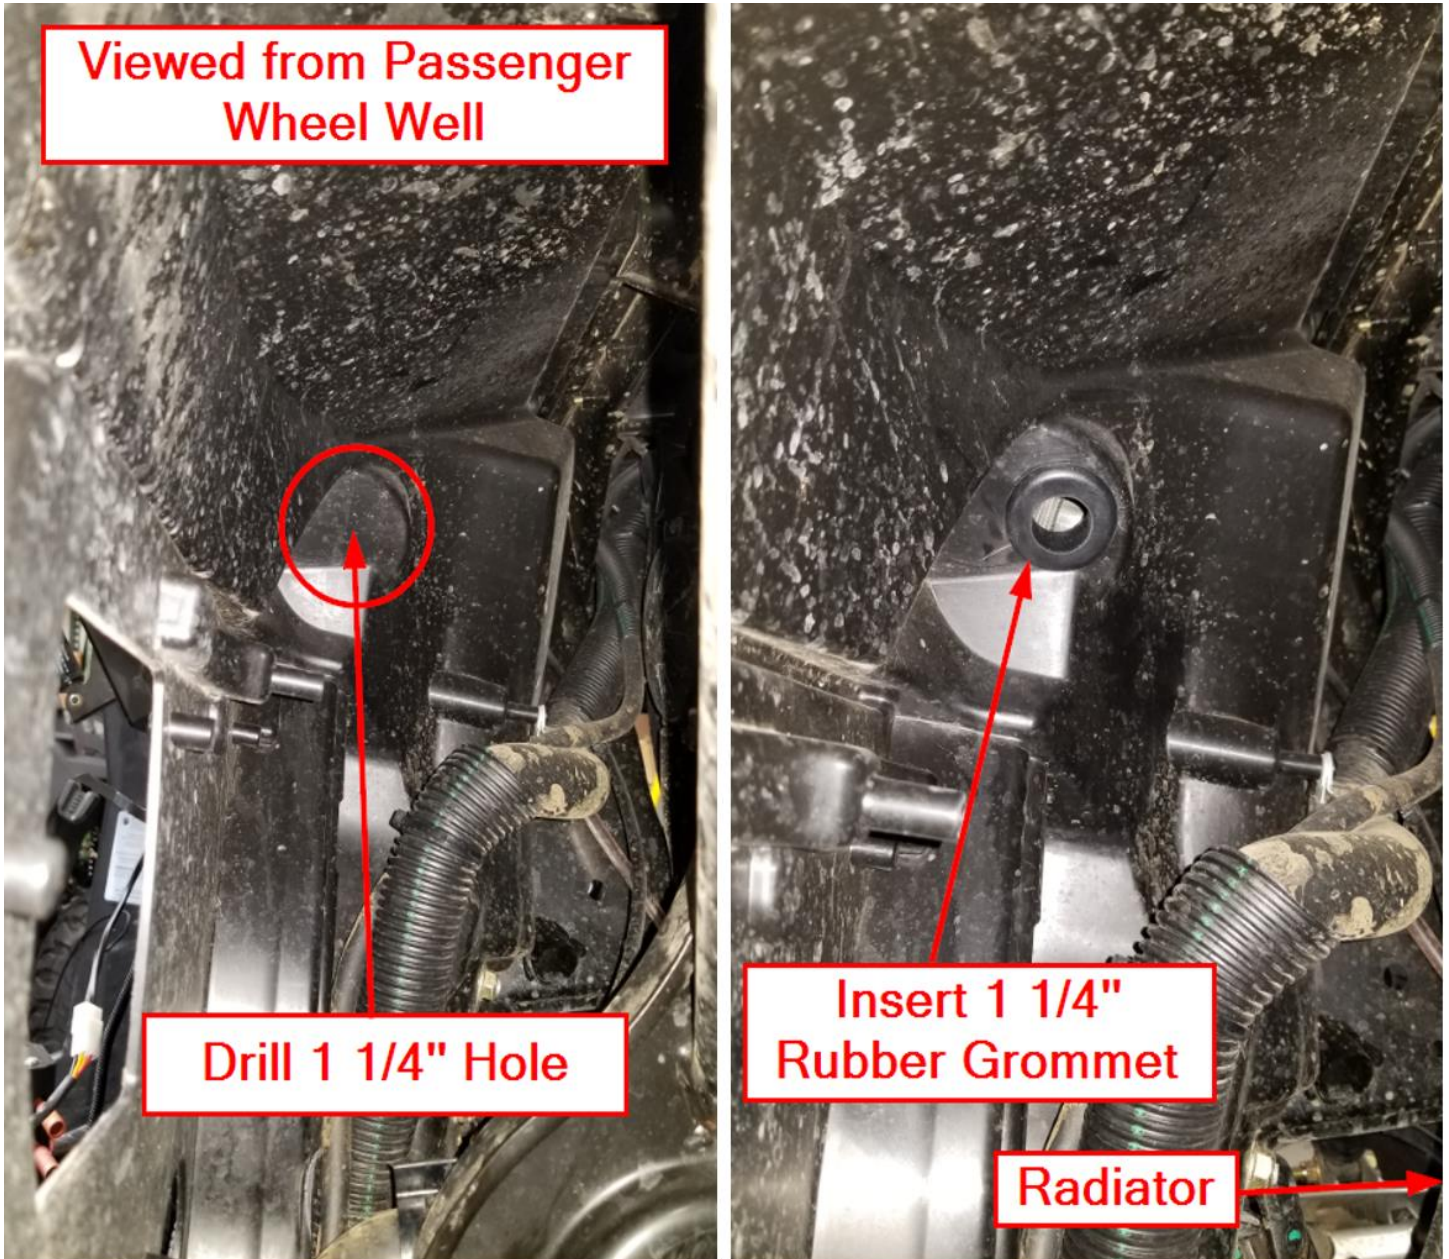

Figure 16
- d. Use the included 1 1/4" Hole Saw and Pilot bit to drill a hole generally centered on the round profile in the firewall visible from the passenger side wheel well looking up toward the center console as shown in Figure 16. Insert the included 1 1/4" Rubber Grommet into the hole.